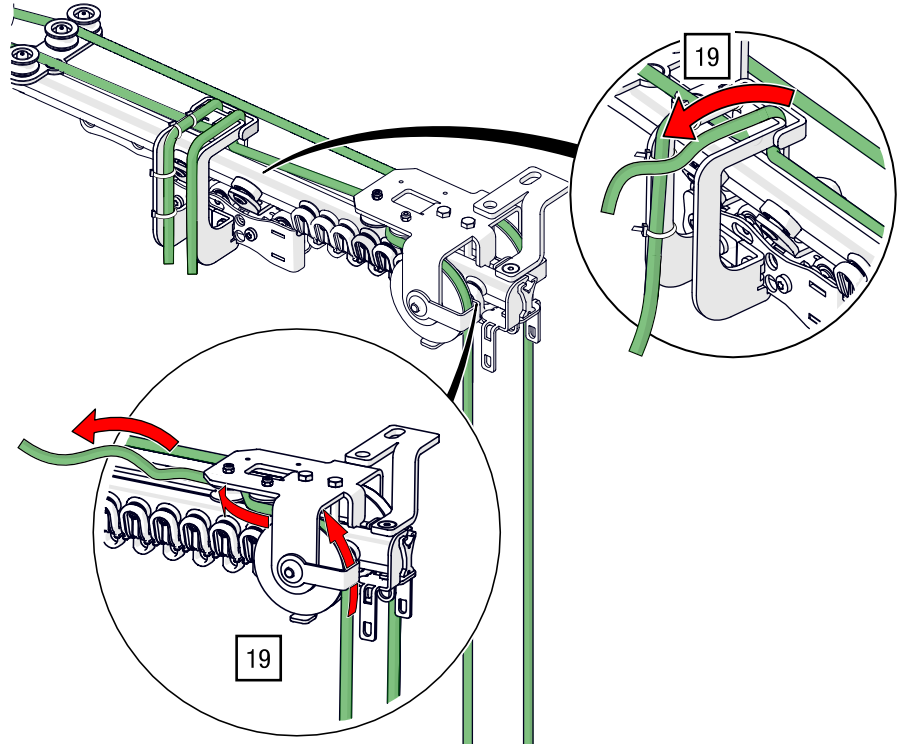

Fig. 82: Top cord operation – Guide cord ends into master runner via head pulley
19. Guide the second cord end up through the head pulley to the first master runner and tie it to the master runner at several positions with tie wraps (see Fig. 82).